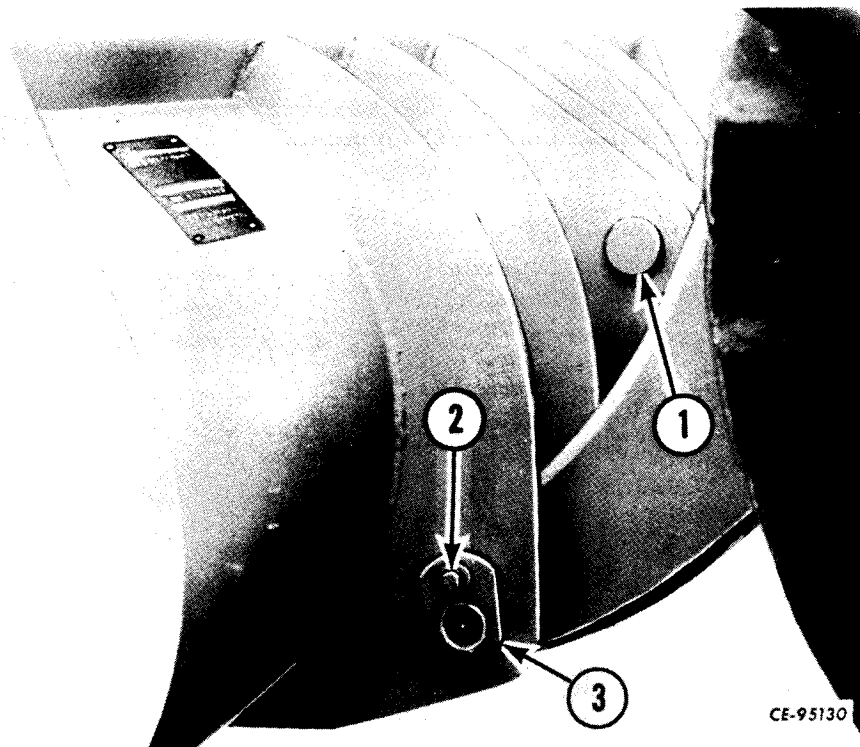

Figure 1-14
Remove the pin locking cap screws with lock washers and flat washers. Remove the pin (1, Fig. 1-14) that attaches the bucket link to the bucket.
Remove cap screws (2, Fig. 1-14) with lock washers and flat washers. Remove pins (3) that
Place boom control lever in "HOLD" position. Remove boom pins (3, Fig. 1-14) and back tractor away from bucket.
To prevent loss of parts, install pins (1, 3, Fig. 1-14) in their respective bucket bores, looping cord rings over pins as they are installed. Thread locking cap screws (2, Fig. 1-14) with lock washer and flat washers through pinlock and into respective bores. Coat all pin shanks with a heavy, waterproof grease to prevent rusting.